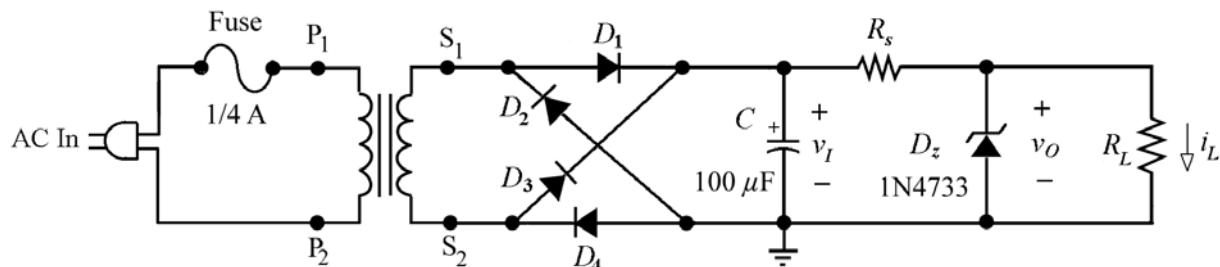
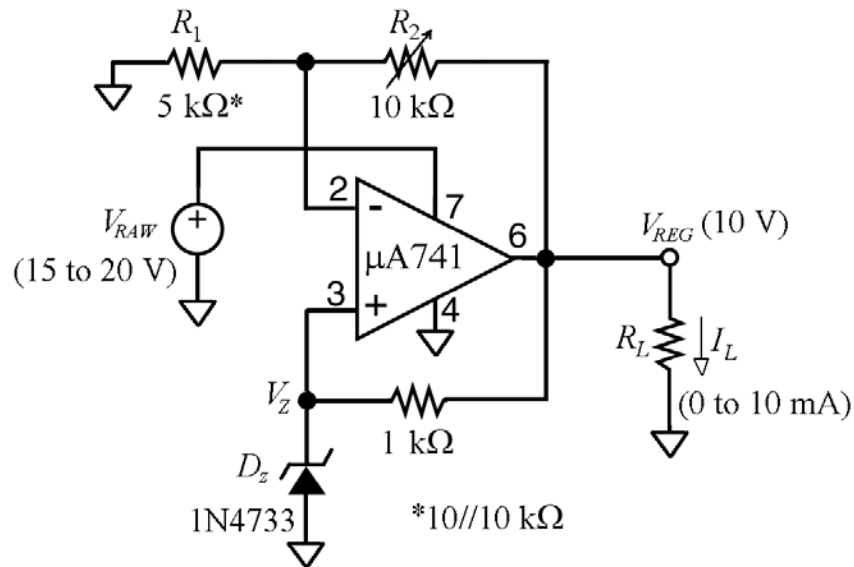

Fig. 9 – Shunt regulator. (D_1 – D_4 : 1N4001).
Fig. 14 – Self-regulated voltage reference.
making the circuit less sensitive to variations in the load current i_L . The shunt regulator of Fig. 9 is designed to function as a DC power supply of about 5 V, and we are going to find R_s for proper operation over the load-current range $0 < i_L < 10$ mA.
C11: Based on the observations and measurements of the previous steps, calculate a suitable value for R_s in Fig. 9 that will ensure *up to* 10 mA of load current with *no less than* 5 mA of Zener-diode current under all input conditions, including when v_I reaches its *minima*. Then, obtain from the stockroom a standard resistor closest to the calculated value, and use this value to predict the *Line Regulation* and the *Load Regulation*, which in the present case take on the forms
M12: With power off, assemble the circuit of Fig. 9, using the resistor obtained in Step C11 for R_s , and using 500 Ω for R_L (use 2×1 k Ω resistors connected in parallel.) Apply power, and measure both the *input ripple* V_{ri} and the *output ripple* V_{ro} with the oscilloscope. The *ratio* V_{ro}/V_{ri} provides the experimental value of the *Line Regulation*. How does it compare with the predicted value of Eq. (8a)? Justify any possible differences.
As discussed, the drawbacks of the simple regulator of Fig. 9 are nonzero line and load regulation. If the Zener diode had $r_z = 0$, its i - v curve would be perfectly vertical, indicating ideal voltage-source behaviour. Both right-hand terms in Eq. (8) would then drop to zero. The circuit of Fig. 14 uses an op amp to effect a dramatic improvement *both* in line and load regulation. Starting from a *raw supply voltage* V_{RAW} , the circuit amplifies the Zener-diode voltage V_Z ($\cong 5$ V) to produce a highly *regulated output voltage* V_{REG} according to
M18: With power off, assemble the circuit of Fig. 14, *but without R_L yet*. Then, apply power ($V_{RAW} \cong 15$ V DC), and while monitoring V_{REG} with the DC voltmeter, adjust R_2 so that $V_{REG} = 10$ V. Now, verify the excellent regulation capabilities of your circuit as follows: